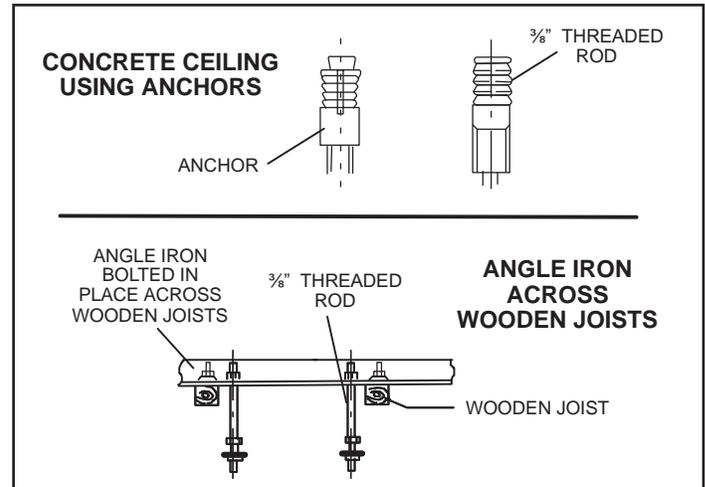

Figure 1. Suspending Methods
4. **Make sure that the structural ceiling is able to support the weight of the cassette unit. It may be necessary to add extra support.** If the structural ceiling is constructed of concrete, install anchors to accept four 3/8" threaded rods to suspend the cassette base. If the structural ceiling includes wooden joists, use angle iron or a Unistrut channel fixed securely in place to accept the 3/8" threaded rods. See figure 1.